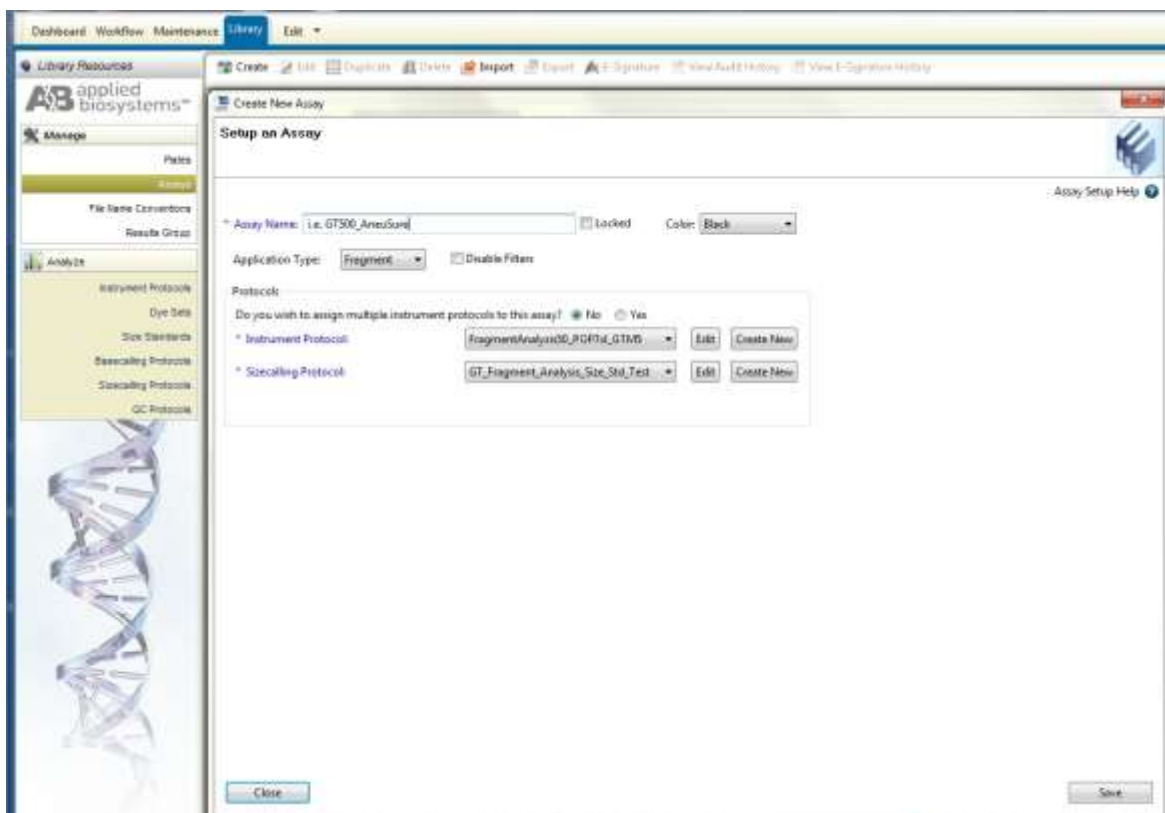

Figure 8. Screenshot for the “Create New Assay” window on Applied Biosystems 3500 Data Collection software.
- c) Select “Create” (Figure 8)
- d) In the Create New Assay window, as shown in Figure 8, choose the Instrument Protocol created in Step 3.1.1 and the QC Protocol created in Step 3.1.3.